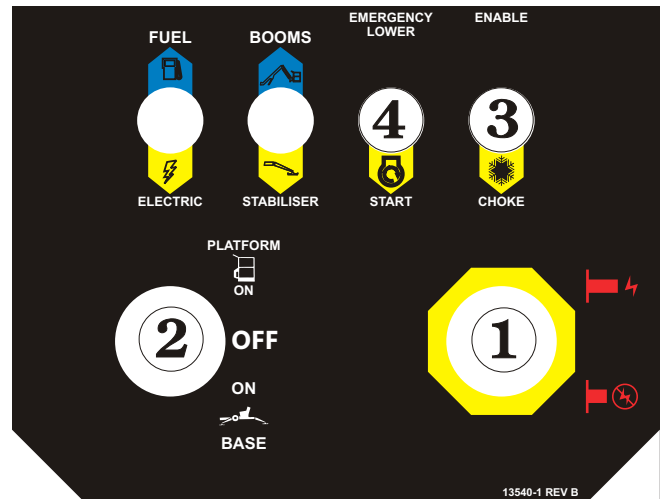

Figure 10.18 - Ground Control Box Starting
1. Set the **Emergency Stop** switch ❶ to ON (see Figure 10.18).
2. Set the **Platform/Ground Selector** switch ❷ to GROUND (see Figure 10.18).
3. If the engine is at ambient temperature (cold), hold the **Choke / Cold Start Switch** ❸ (see Figure 10.18) down throughout the next step.
4. Press down on the **Start Switch** and hold it there until the engine starts or for a maximum time of 6 seconds. When the engine starts release the start switch ❹ and the choke switch ❸, if you used it (see Figure 10.18).